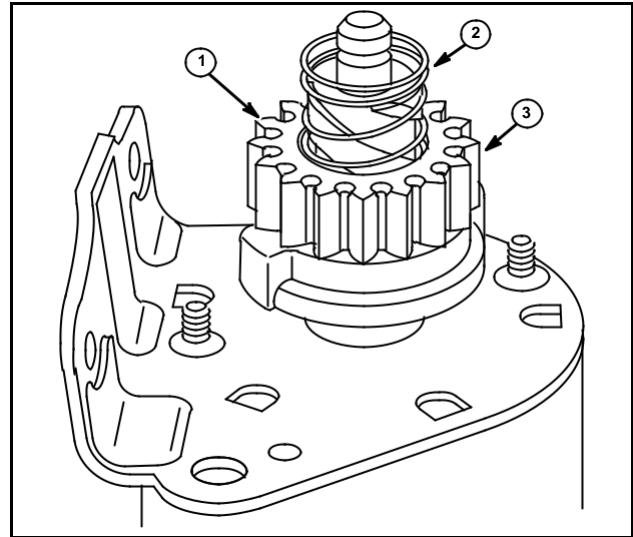

Fig. 60
2. Install starter gear with beveled side of teeth up (1), Fig. 60. Then install return spring (2) making sure spring is in recess of starter gear (3).